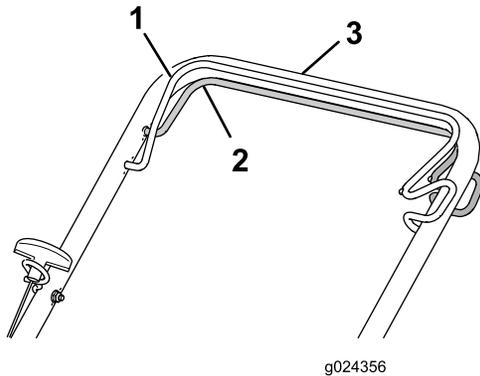

Figure 14
- **To engage the self-propel-drive:** Squeeze the self-propel-drive bar against the handle and hold it (Figure 14).